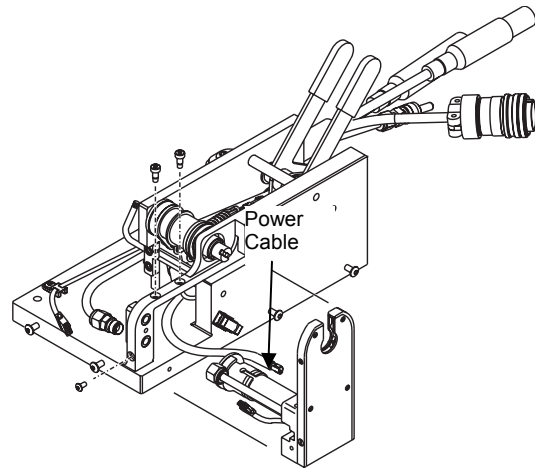

Figure 45 *Disconnecting the Power Cable*
18. Disconnect the power cable from the plastic motor drive housing. See Figure 45.